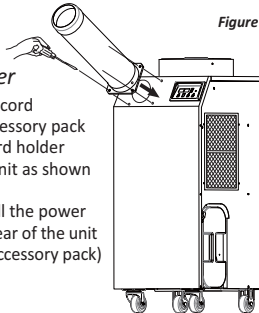

Figure 4 – Cool Air Outlet attachment
2. Place the cool air outlet hose on the front top of the unit as shown in Figure 4